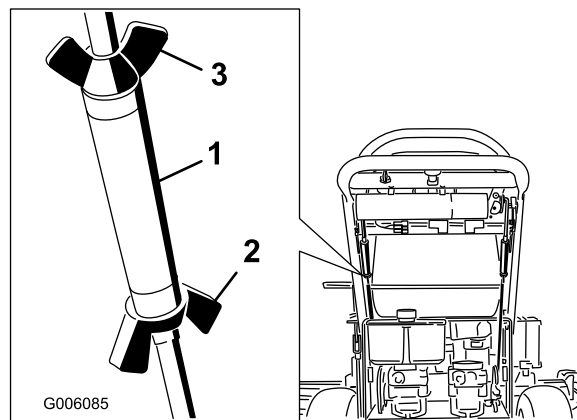

Figure 57
3. Secure the turnbuckle into position with the wing nuts (Figure 57).
5. Secure the turnbuckle in position with the wing nuts (Figure 57).